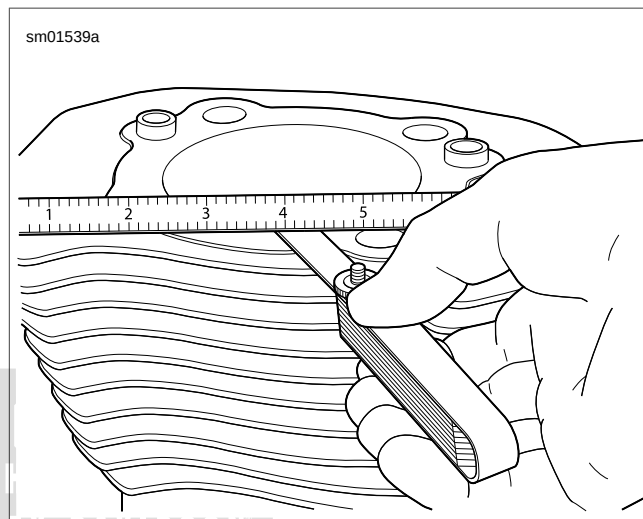

Figure 3-72. Checking Gasket Surfaces
1. See Figure 3-72. Check that cylinder top (head) gasket surface is flat within 0.006 in (0.15 mm).